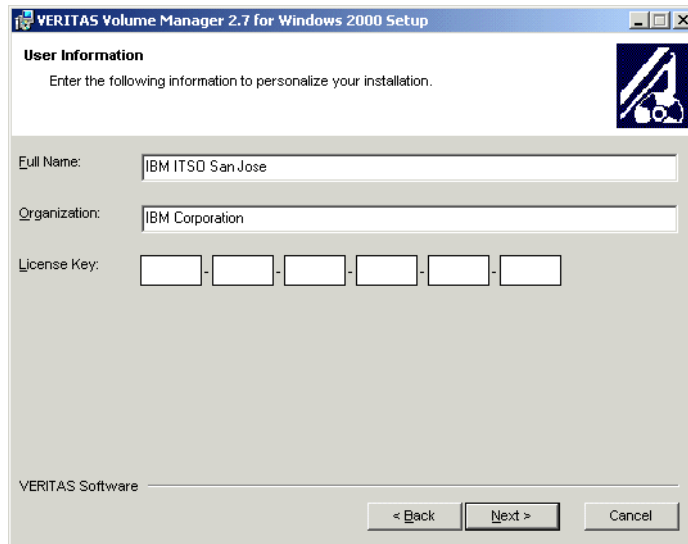

Figure 9-21 Veritas VxVM personalization and licensing window
4. The User Information window appears, as shown in Figure 9-21. Please fill out all desired fields and click **Next**.